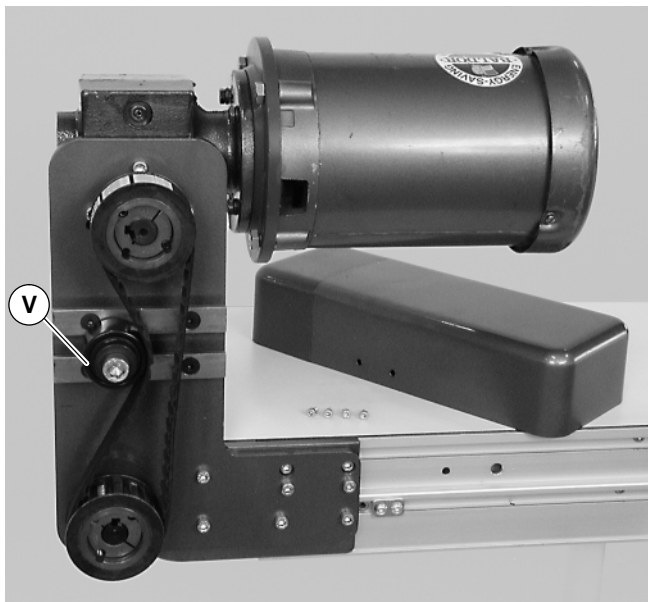

Figure 11
2. Loosen tensioner (V of Figure 11).